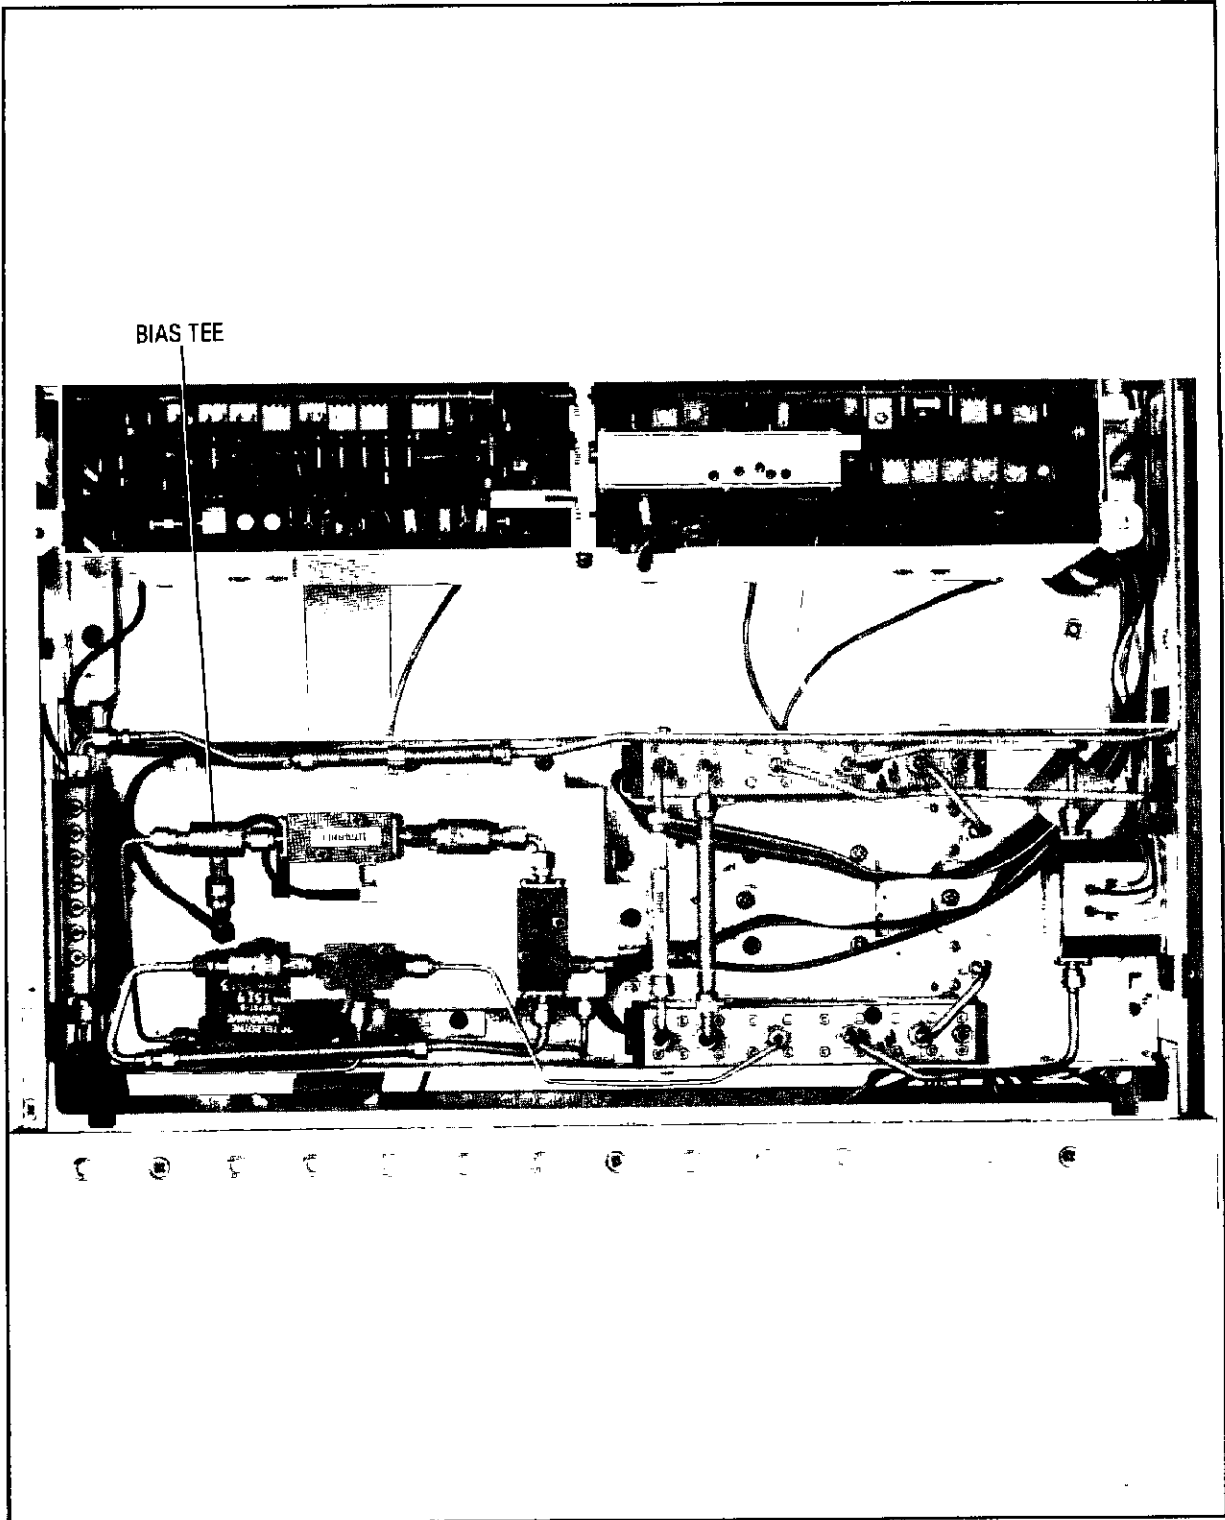

Figure 8-61. Bias Tee
44. Set both LINE switches to OFF then remove the bias tee A1CP1 (see figure 8-61). Using the DVM, measure the resistance between